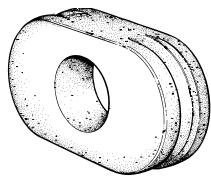

Figure 10
- The rubber blocks are wearing parts and should be changed when they show any signs of wear, e.g. cracks, deformation, etc. If the rubber blocks are older than two years they should be automatically replaced. See figure 10.